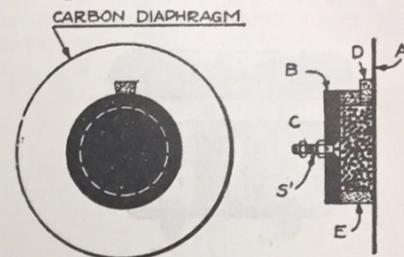

FIG 1
A good method is shown in the illustration Fig. 1. Three nails are driven into a board out of alignment with each other, the wire passing around them as shown. All that is necessary is to keep the wire between the nails and pull it through.
The transmitter is highly sensitive. The shell of a watchcase receiver makes an excellent outer case as shown at (P), Fig. 3. For the interior mechanism we need a thin carbon diaphragm (A), Figs. 1, 2, 3, preferably standard size, 2 1/8 inches wide and 1/64 inch thick. A felt washer (E) 1 1/4 inches in diameter with walls 3/16 inch square should be made with an opening (X) 3/16 inch wide. Glue the washer to the center of the carbon diaphragm.
A piece of paper bent to a scoop will simplify the filling of the chamber. The openings between the ends of the washer must be plugged with a piece of felt (D), Figs. 1 and 2. This can be done with a pin or sharp pointed knife.
FIRST a pair of wooden candlesticks were procured and wired as shown in Fig. 1, the wires ending in contact points spaced as far apart as possible in the socket of the candlestick. Next a pair of candles. Each had two wires run up their length and bent to form a small gap at the base of the wick. The wires were introduced by being heated, so as to melt their way through. These wires were bare and so placed as to make a contact